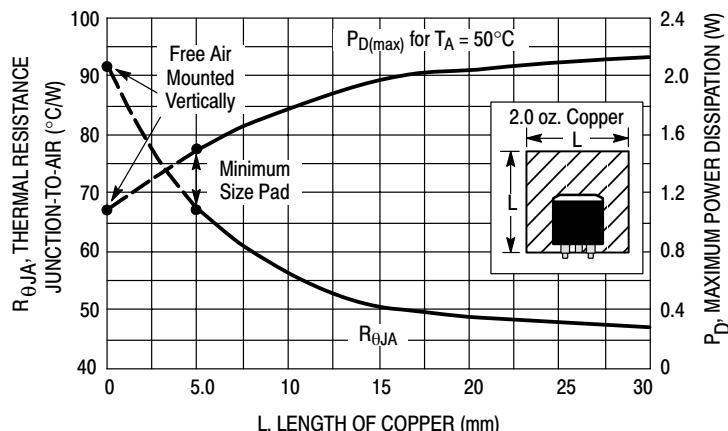

Figure 28. DPAK Thermal Resistance and Maximum Power Dissipation versus PCB Copper Length
6. The Junction-to-Ambient Thermal Resistance is determined by PCB copper area per Figure 28.